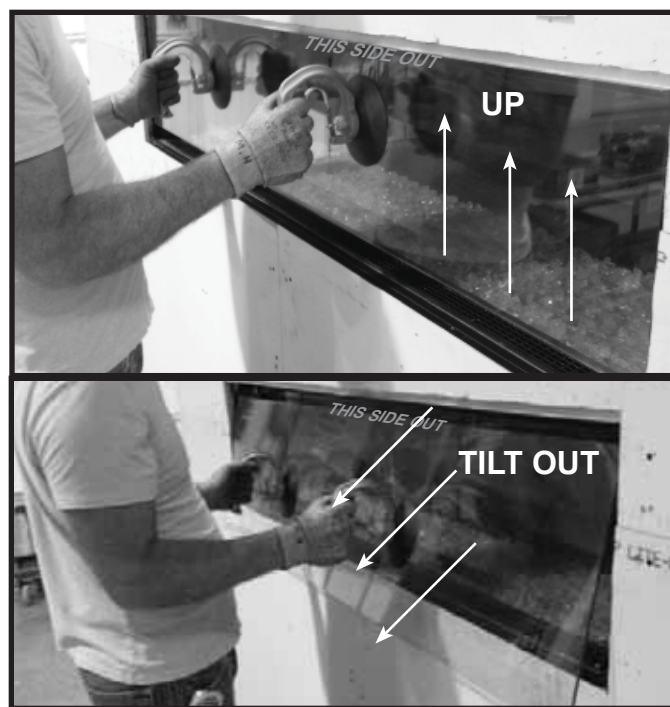

Figure 11.2. Barrier Glass - Clean Face Finish
2. Slide glass straight up behind finishing material. See Figure 11.2.
3. Tilt bottom out as shown in Figure 11.2. Slide glass down to remove it from the appliance.